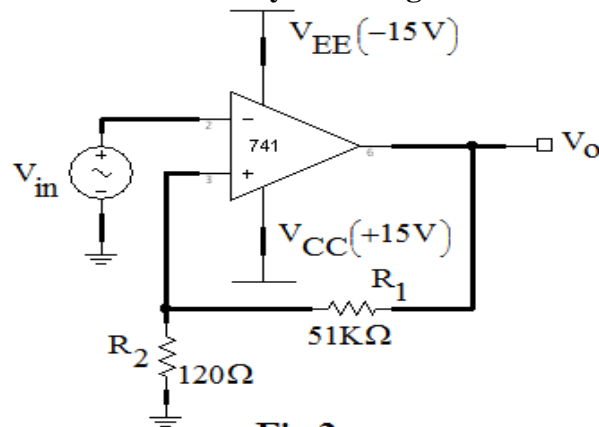

Fig.2
b. Explain the operation of the circuit shown in Fig.2. Also draw the waveforms with suitable calculations by assuming $V_{sat} = 0.9V_{CC}$